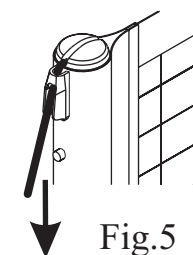

Fig.5
- 4** Apply tension to the Net by pulling down on the net headline and jam the headline rope into the cleet to lock, as shown in Figure 5. Do not over tighten the net as this may cause lifting of the end braces. To release the headline rope; pull down slightly and then pull away from the post, this will free the headline rope from the cleet.